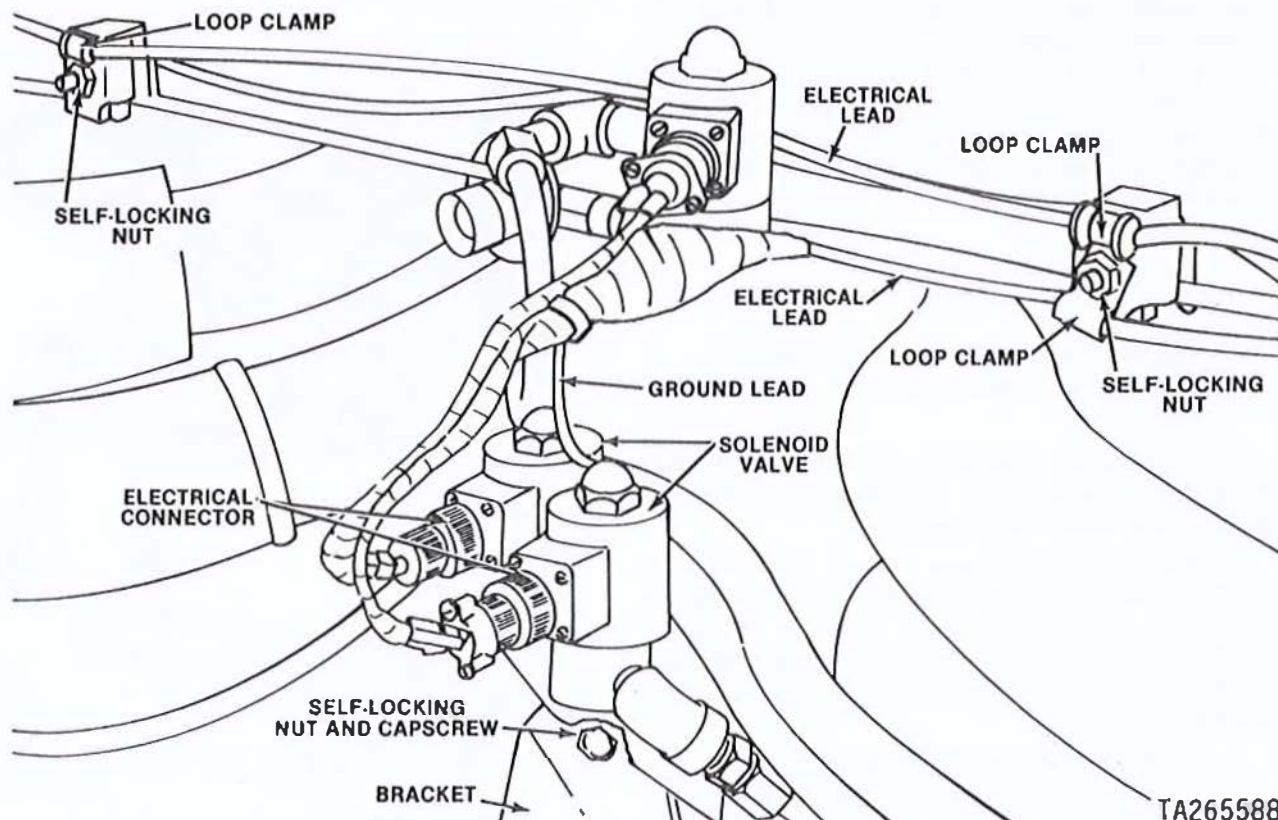

Figure 4-8 Removing or Installing Smoke and Dust Detector Electrical Cable
- (4) Remove two self-locking nuts (fig. 4-8) and two loop clamps. Remove two clamps from electrical leads. Disconnect two electrical connectors from solenoid valves. Remove self-locking nut and capscrew securing ground lead to solenoid valve bracket.
(4) Install two loop clamps (fig. 4-8) on electrical leads. Secure loop clamps to cap screws with two self-locking nuts. Connect electrical connectors to solenoid valves. Position ground lead behind bracket and secure with cap screw and self-locking nut.